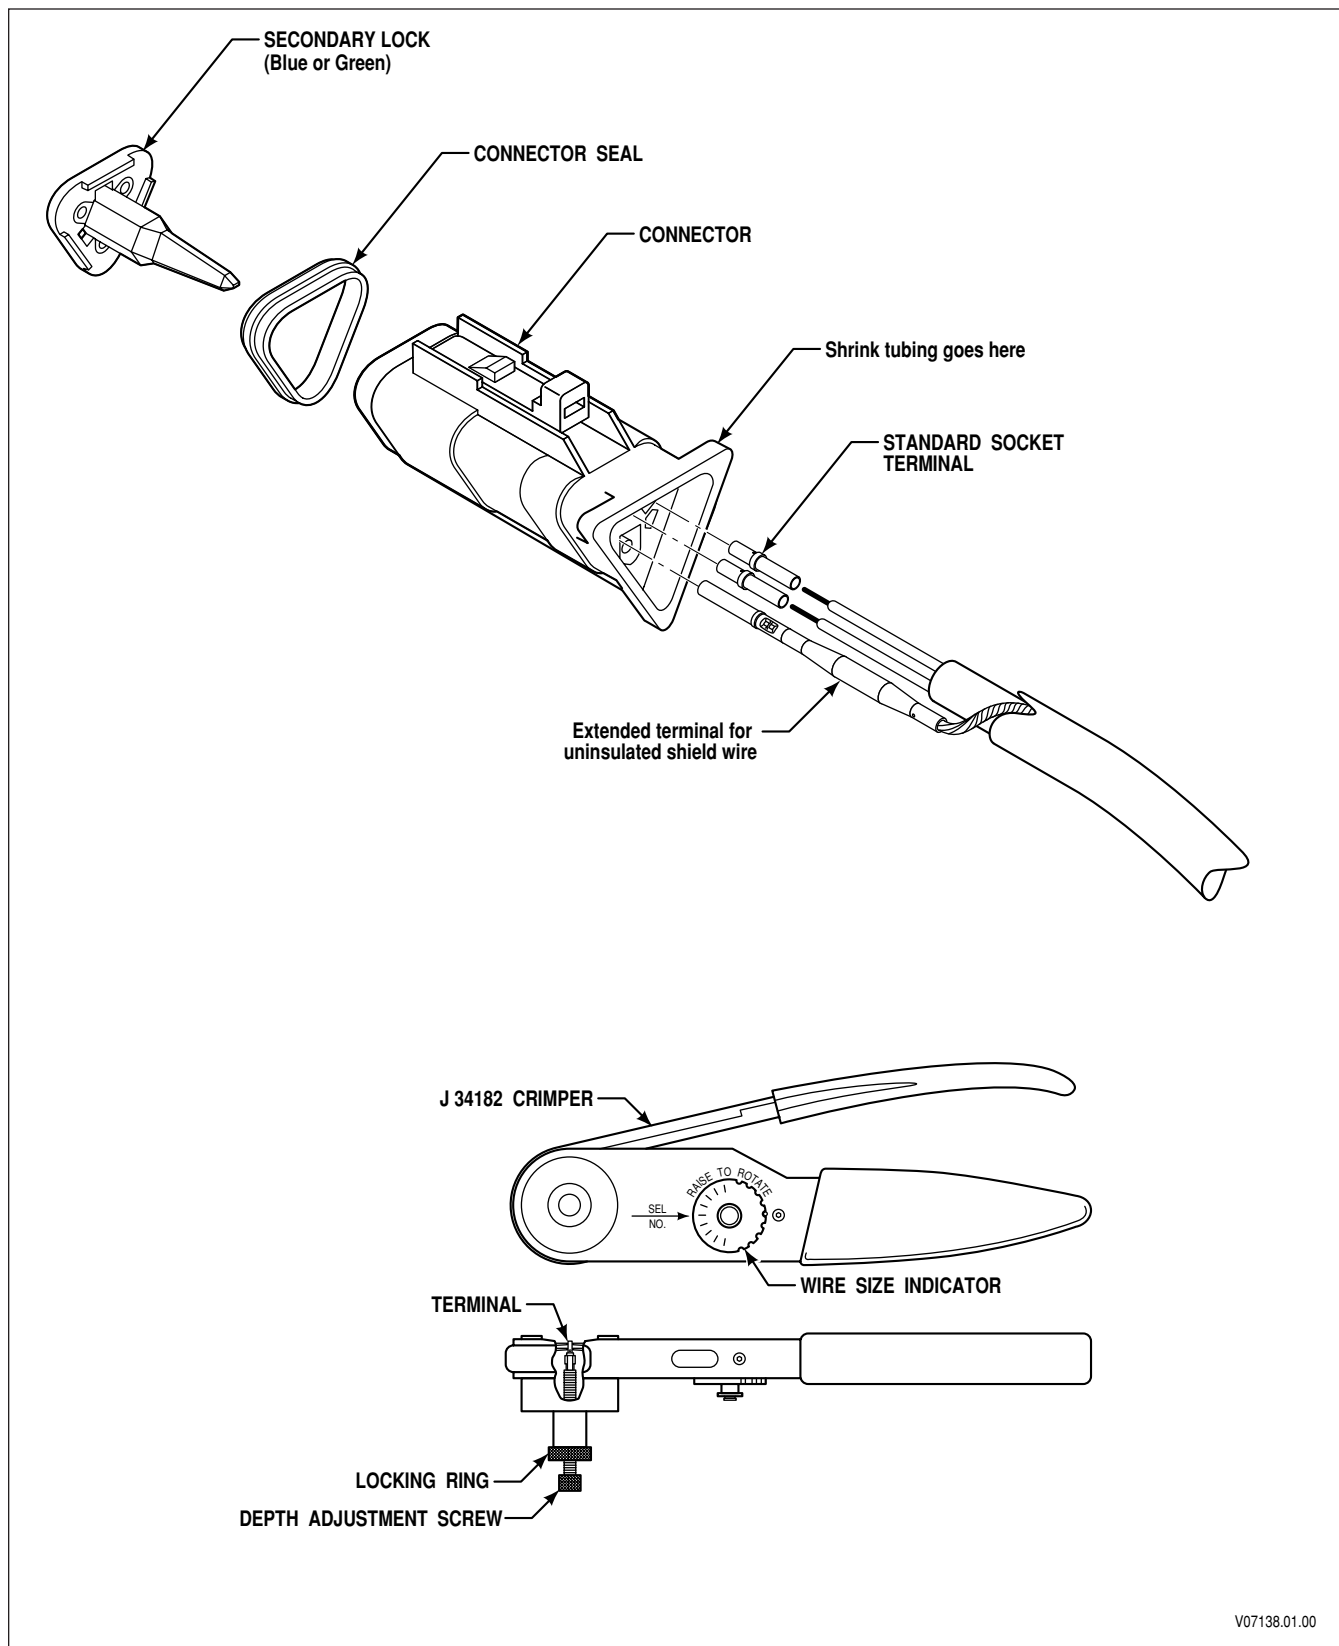

Figure E-13. Deutsch DT Series Connector (3-Way J1939 Interface)
#### B. Terminal Removal (Figure E-13)
#### C. Terminal Crimping (Figure E-13)
### **C. Terminal Crimping (Figure E-13) (*cont'd*)**
2. Push the terminal and wire into the connector until it locks into position (Figure E-13). Check the front of the connector to see that the terminal is at the same height as other terminals. Tug on the wire at the rear of the connector to ensure that the terminal is locked in place.